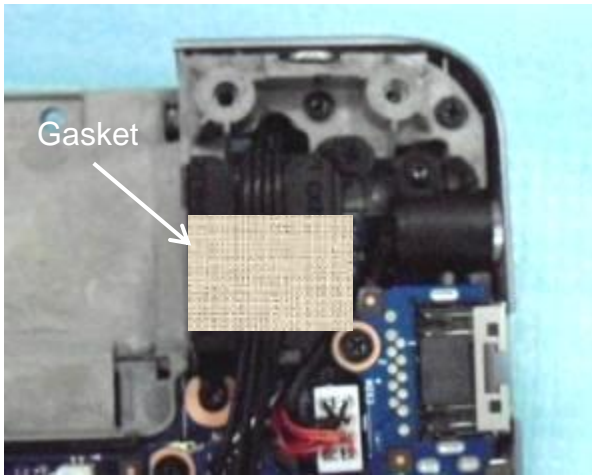

Fig.1
1. Rip the gasket (6054B0235601) * 1, disassembly WWAN & WLAN antenna cable. (Fig.1)